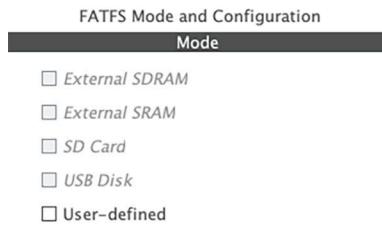

Figure 3: What CubeMX shows for an STM32F746VG MCU
**Figure 3**, instead, shows the options available if you use an STM32F779BI MCU, which provides the SDIO interface4, the FMC controller and a USB-device interface. However, as you can see in **Figure 3**, the generation options appear grayed out. This happens because we need to enable the corresponding peripheral first, and then check the wanted FatFs configuration. For example, let us assume that we are working on an STM32F401RE MCU, which provides a SDIO peripheral. We first need to enable the wanted SDIO mode (1-bit, 4-bit, etc) in the *IP Tree* view, and then check the corresponding FatFs option.